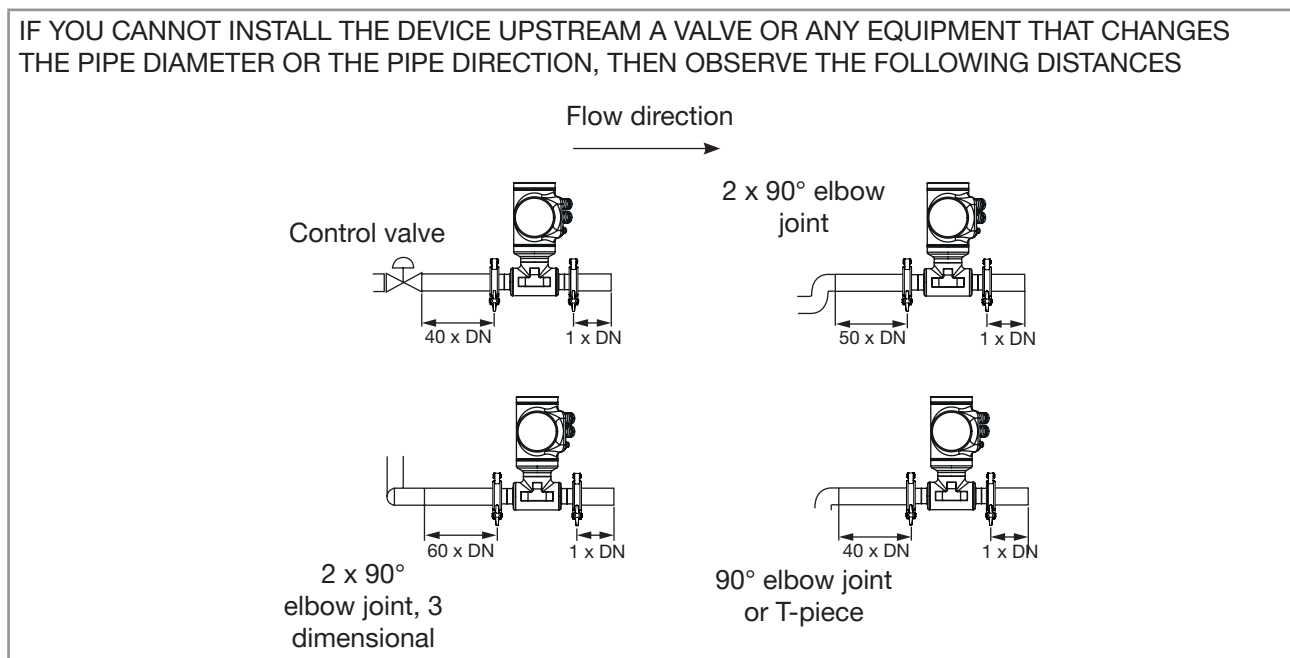

Figure 15: Upstream and downstream straight distances for special pipe designs (example for a horizontal installation)
- If you cannot install the device upstream a valve or any equipment that changes the pipe diameter or the pipe direction, observe the straight downstream distances depending on the design of the pipes. Refer to standard ISO 9104:1991 and Figure 15. If these recommendations cannot be complied with, contact Bürkert.